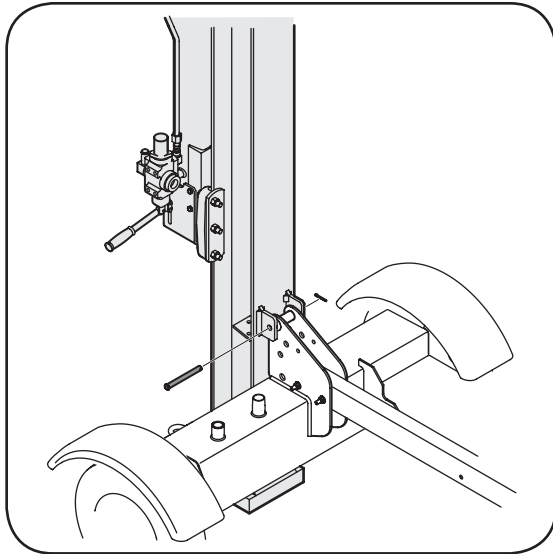

Figure 3-7
4. Insert clevis pin just removed through brackets on beam and reservoir tank assembly. Secure with cotter pin by bending the ends of the pin in opposite directions. See Figure 3-7.